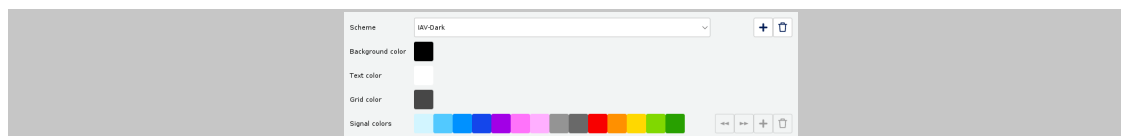

Figure 5: Options for changing signal colours
Only for signal colours there is a possibility to choose multiple colours, ordering, adding or deleting as many new colours as necessary in accordance with the number of signals. These options you can find to the right of the title 'Signal colour' (see Figure 5).
1. Press **Add** icon  (see Figure 5).